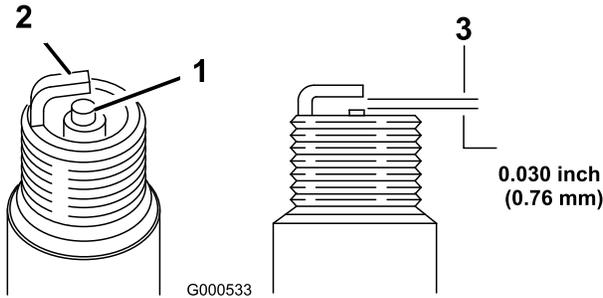

Figure 43
1. Look at the center of the spark plugs (Figure 43).
2. Check the gap between the center and side electrodes (Figure 43) and bend the side electrode, if the gap is not correct.